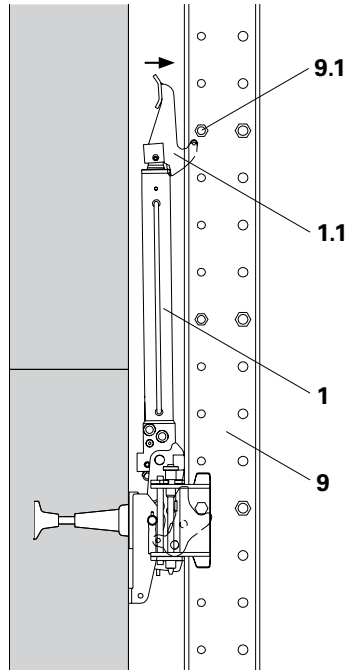

Fig. 62: Tipping back the climbing device by hand
2. If the claw does not remain in the rail: position claw (1.1) by hand between the profiles of the climbing rail. (Fig. 62)